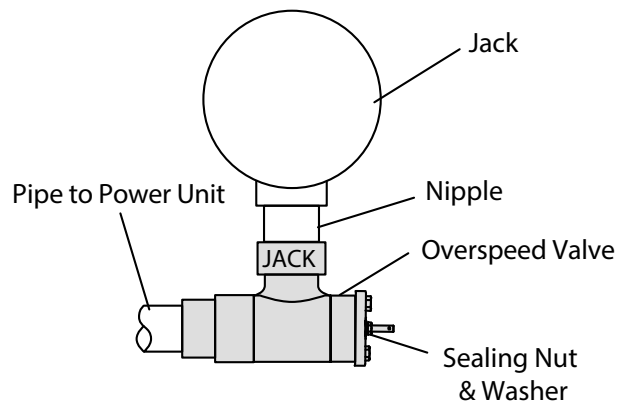

Figure 17 - 2" Overspeed Valve (90° shown, in-line available)
1. Install the overspeed valve within 12" of the jack. See Figure 17 for proper orientation of the valve.